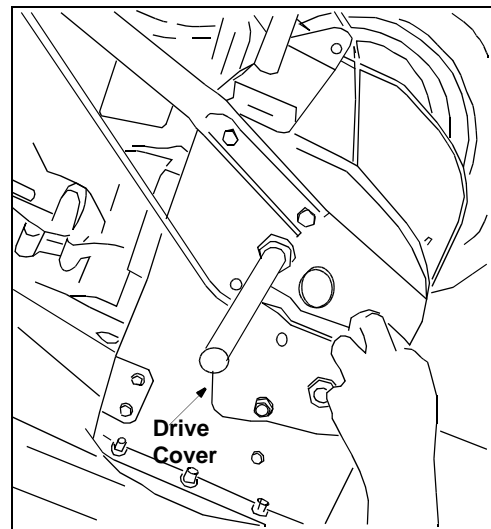

Figure 31
- Remove the four screws securing the left drive cover to the frame. Remove the drive cover from the side of the frame. See Figure 31.